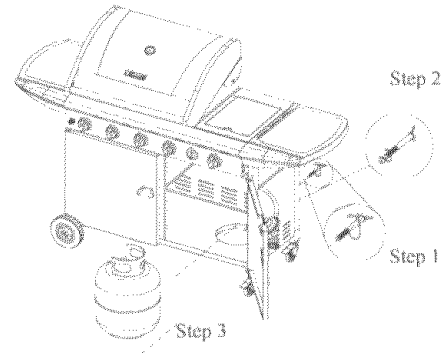

Figure 19
1. From Rear of the cart, place foot ring of 20 lb tank into the hole in bottom shelf. Make sure the tank valve is in OFF position. (Fig.19)